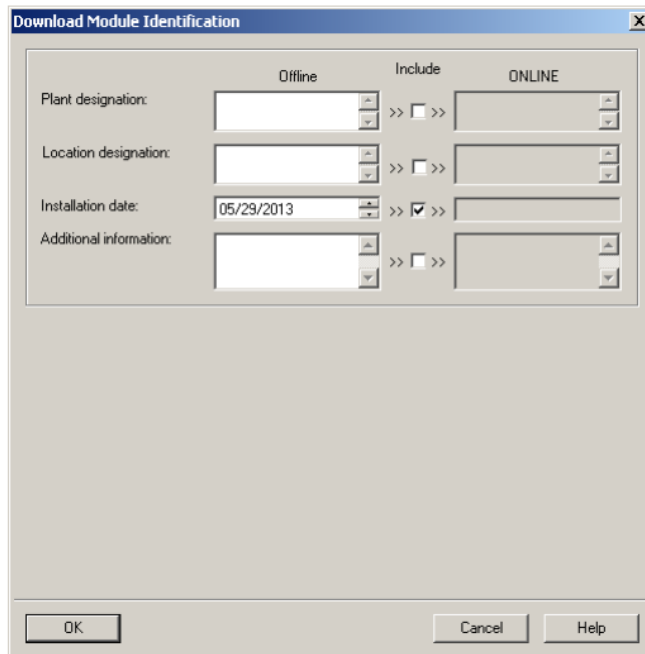

Figure 2-13 Dialog box: Download Module Identification
- In the dialog box (Figure 2-13), you can now adapt the I&M data records (1 - 3) and write them to the device with “OK”.